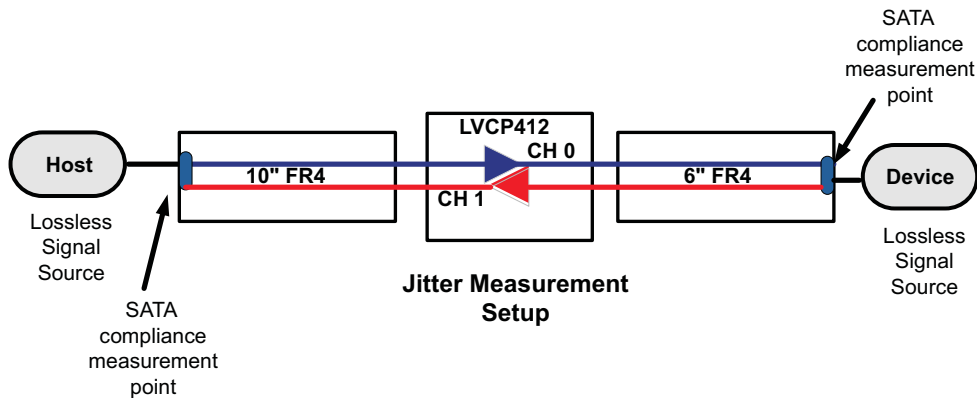

Figure 2. Jitter Measurement Test Condition
(1) $T_J = (14.1 \times R_{JSD} + DJ)$ where R_{JSD} is one standard deviation value of RJ Gaussian distribution. T_J measurement is at the SATA connector and includes jitter generated at the package connection on the printed circuit board, and at the board interconnect as shown in Figure 2.